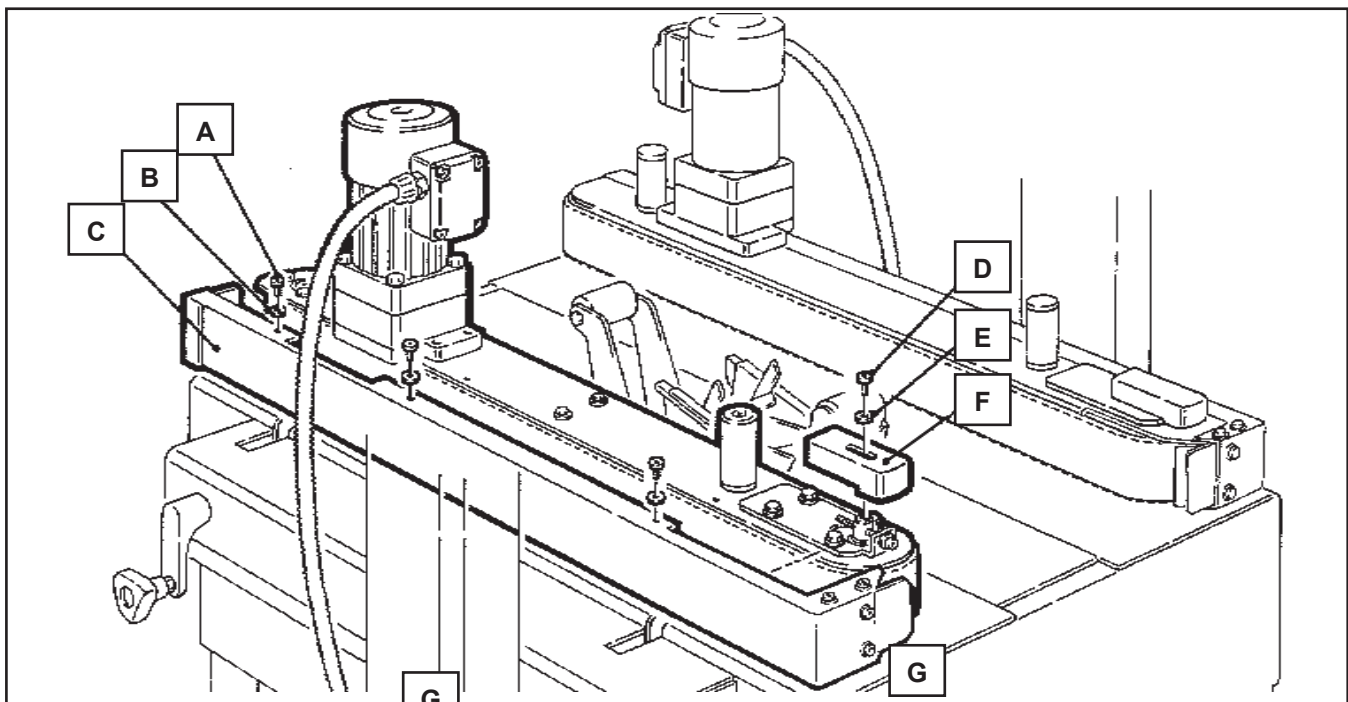
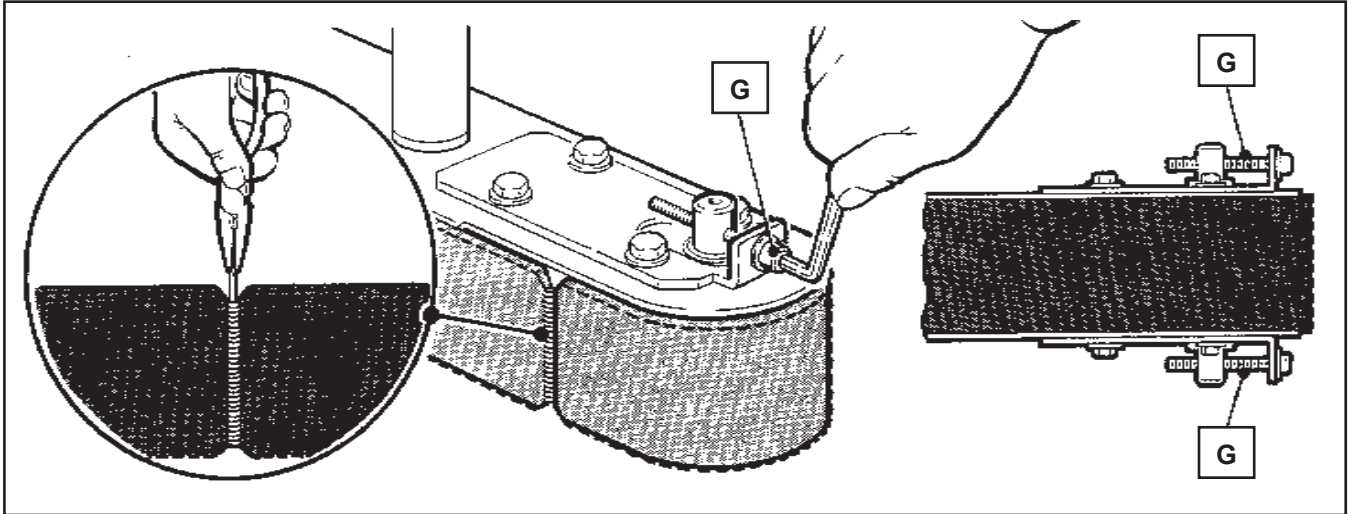

Figure 13-4 – Box Drive Belt (Left Side View – Infeed End)
Figure 13-5 – Box Drive Assembly, Infeed End
2. Remove and retain the three (3) screws (A), three (3) washers (B) and side cover (C). **See Figure 13-4.**
3. Remove and retain the screw (D), washer (E) and belt tensioner cover (F).
4. Turn belt adjustment screws (G) counterclockwise on both the upper and lower tension assemblies until belt is loose. **See Figure 13-5.**
7. To set drive belt tension, turn adjustment screws (G) equally on both the upper and lower tension assemblies. Turn the screws clockwise to increase tension or counterclockwise to decrease tension. **See Figure 13-5.** Use a force gauge to pull the belt outward 25mm [1 inch] at mid span, as shown with a moderate pulling force of 3.5 kg [7 lbs].
8. Reverse procedures in Steps 1-3 (**Figure 13-4**) to reassemble the drive belt assembly.